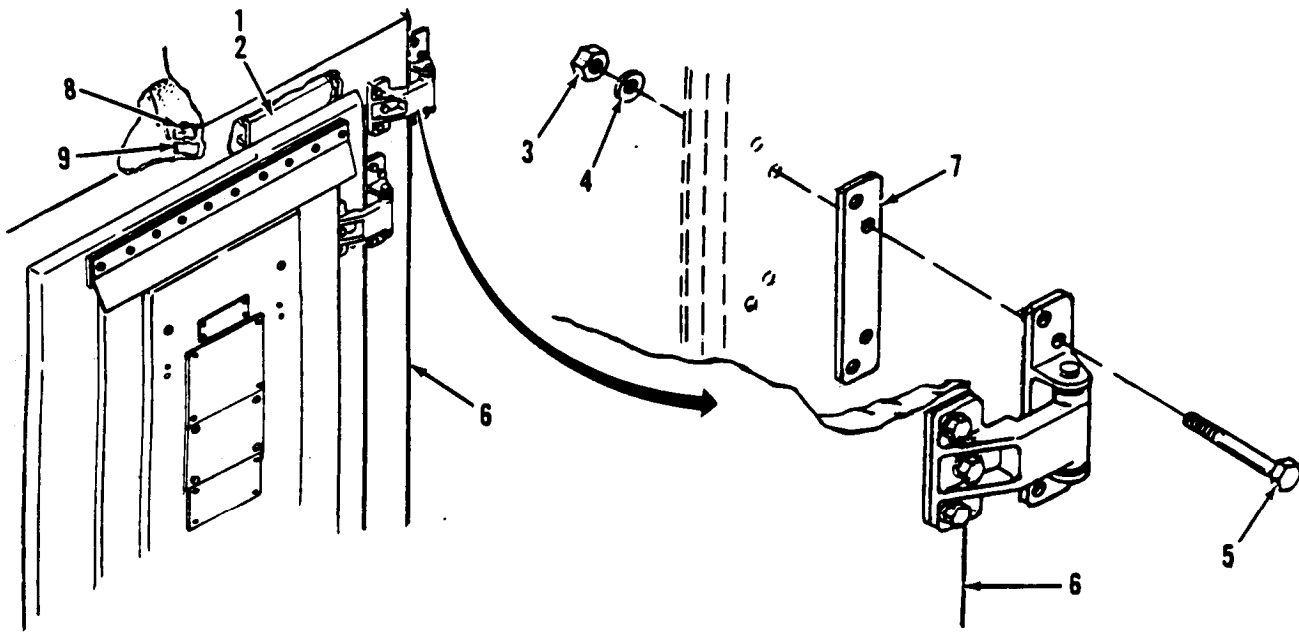

Figure 3-18. Outer Door Assembly Replacement.
a. Inspect. (Figure 3-18)
- (1) Inspect the outer door assembly (6) for external damage.
- (2) Inspect the silicone weather gasket (8) for tightness.
- (3) Inspect the RFI/EMI gasket (9) for wear and secure mounting on shielded shelter.
- (4) Inspect the door for positive closing and proper operation.
b. Remove. (Figure 3-18)
- (1) Remove and retain three phillips head screws (1) attaching door stay channel (2) to door panel, and pull channel away from door panel.
- (2) Remove and retain four nuts (3), lock washers (4), and hex head screws (5) attaching each of the three hinges to shelter.
- (3) Remove outer door panel (6) and three hinge spacers (7).
a . Install. (Figure 3-18)